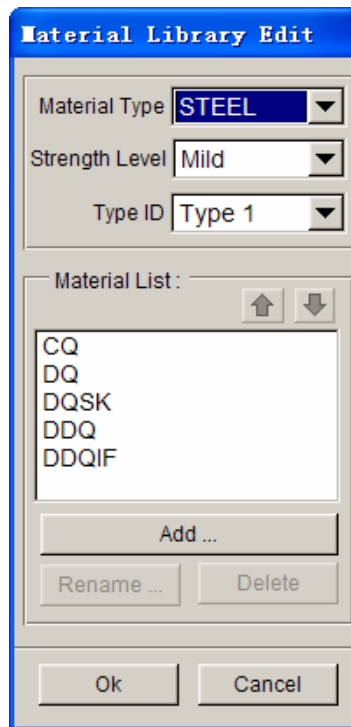

Figure 8.2.35 Edit Material Library dialog box
**EDIT MATERIAL LIBRARY:** This function enables the user to edit the material library, such as Add, Delete and Modify material. After clicking this button, the program will display the Material Library Edit dialog box as shown in Figure 8.2.35.